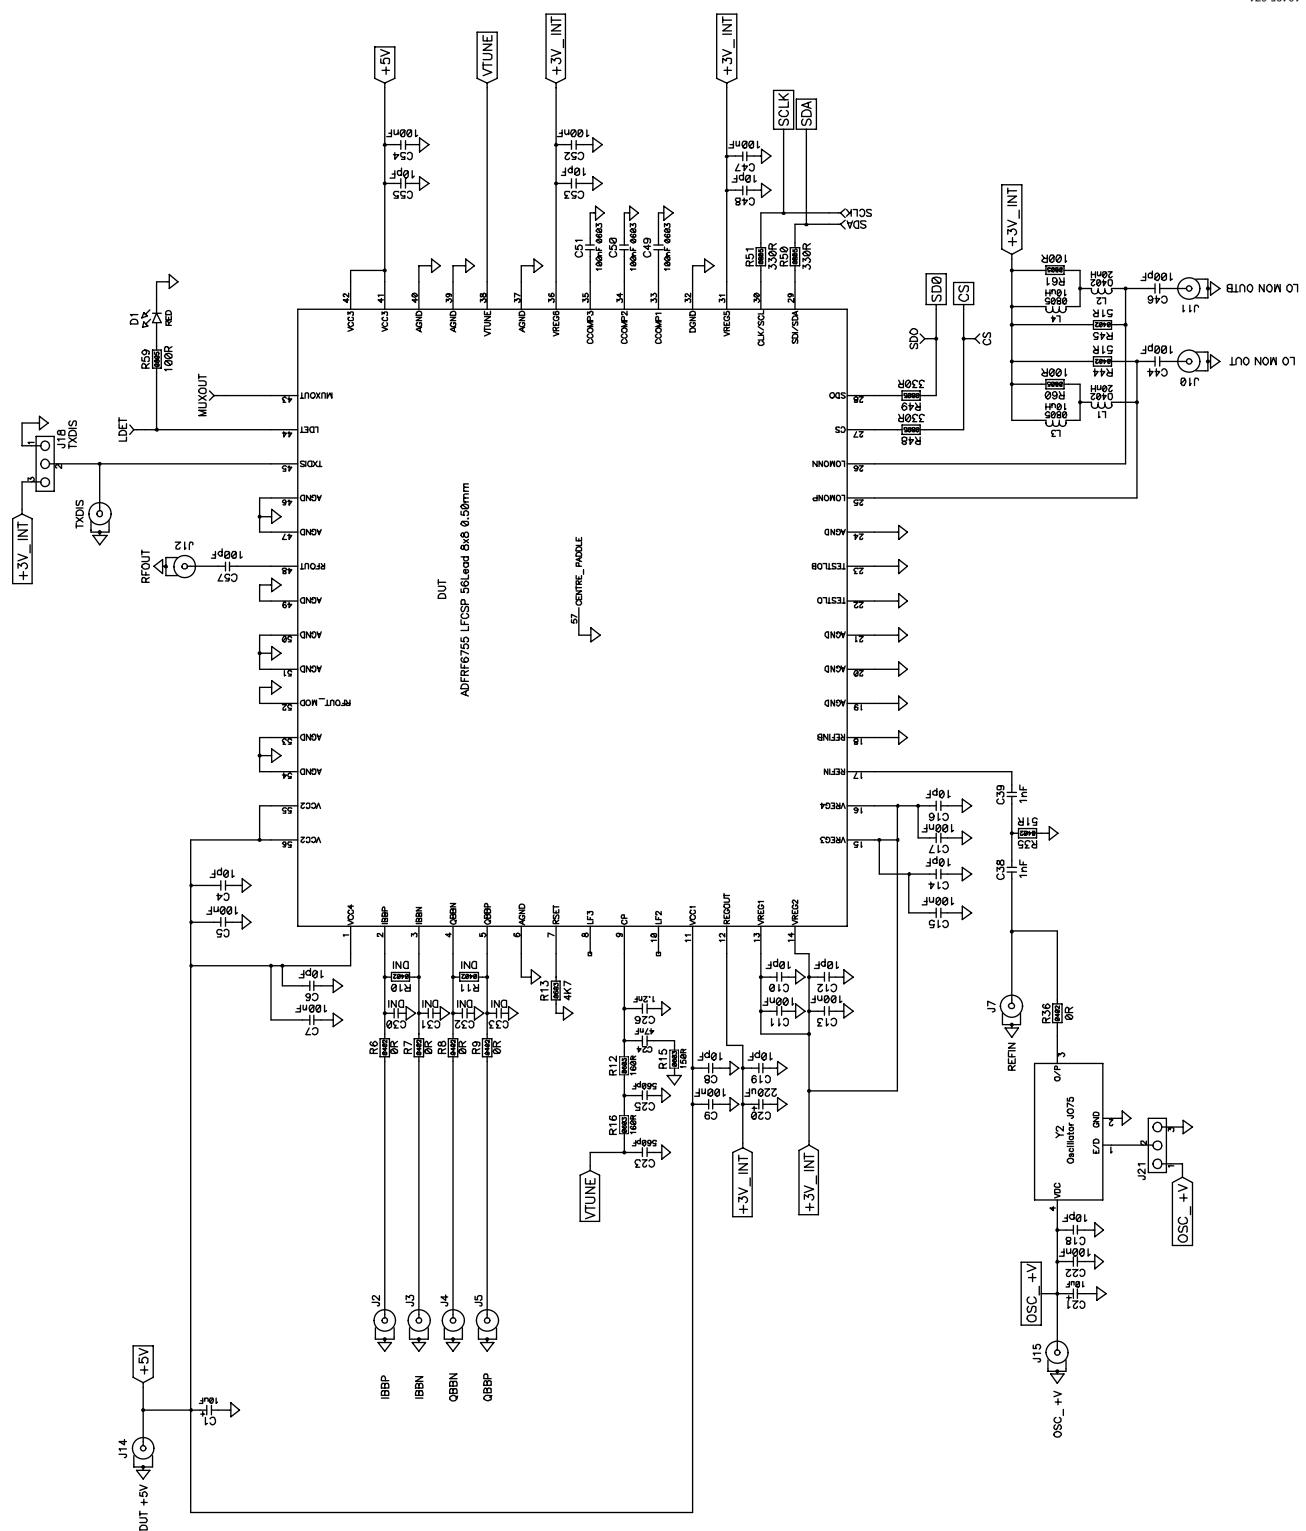

Figure 70. Applications Circuit Schematic
22. Write 0xF0 to Register CR9. With the recommended loop filter component values and $R_{SET} = 4.7 \text{ k}\Omega$, as shown in Figure 70, the charge pump current is set to 5 mA for a loop bandwidth of 100 kHz.
For more information, refer to the circuit diagram in Figure 70.